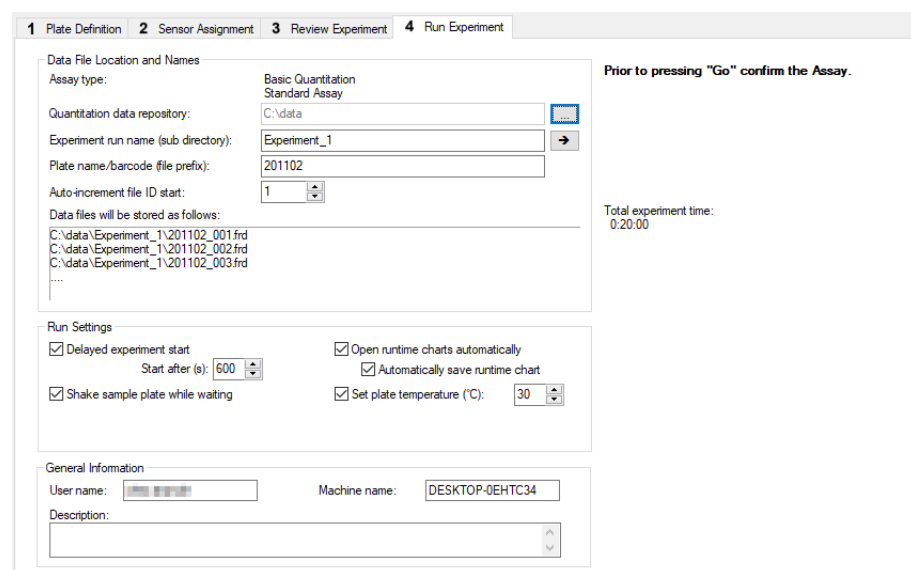

Figure 6-53: Run Experiment Window
1. Click the **Run Experiment** tab, or click the arrow  to access the Run Experiment window (see Figure 6-53).